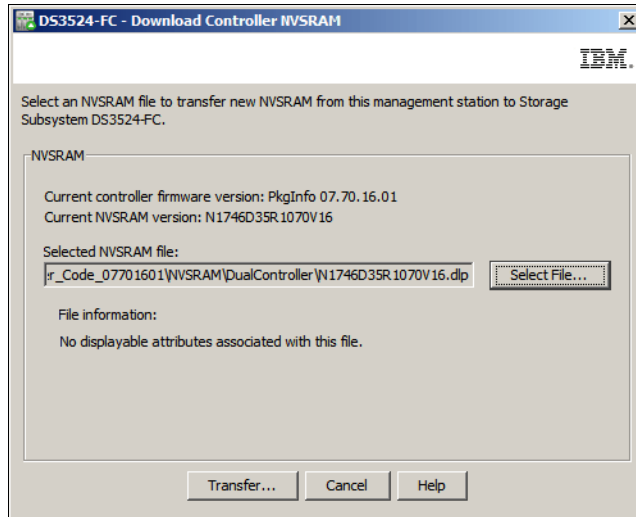

Figure 14-76 Select the NVSRAM file to install
2. Click the **Select File** button to select the NVSRAM file as shown in Figure 14-76 on page 379.